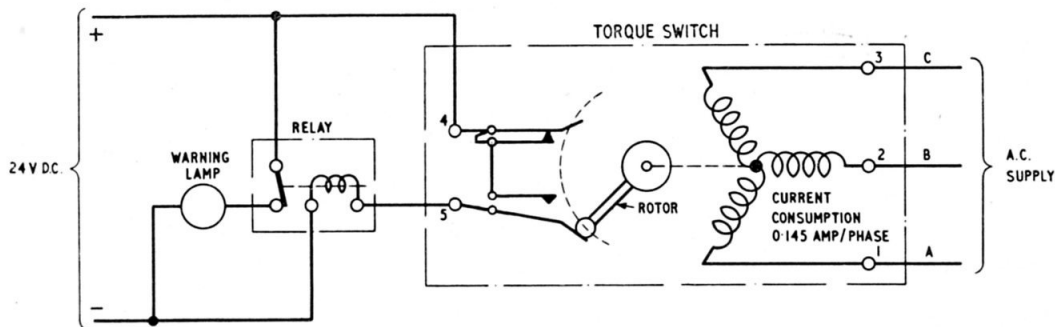

Fig. 3. Typical circuit diagram (warning light application)
15. Terminals 1, 2 and 3 on the switch must be connected in the correct phase sequence (*fig. 3*) to the 3 output leads from the main 115V. supply. The switch is directional and will not operate if the phase rotation is incorrect. The two remaining terminals, numbered 4 and 5, must be connected into that part of the d.c. circuit which includes the warning medium.